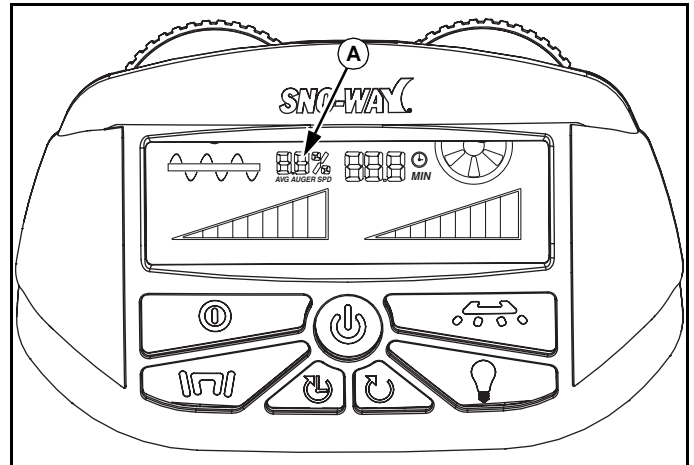

Figure 1-16
The Average Auger Speed Indicator (A) shows on average what the auger has been operating. The purpose of this average speed is to help in material use calculations. (See Figure 1-16.)